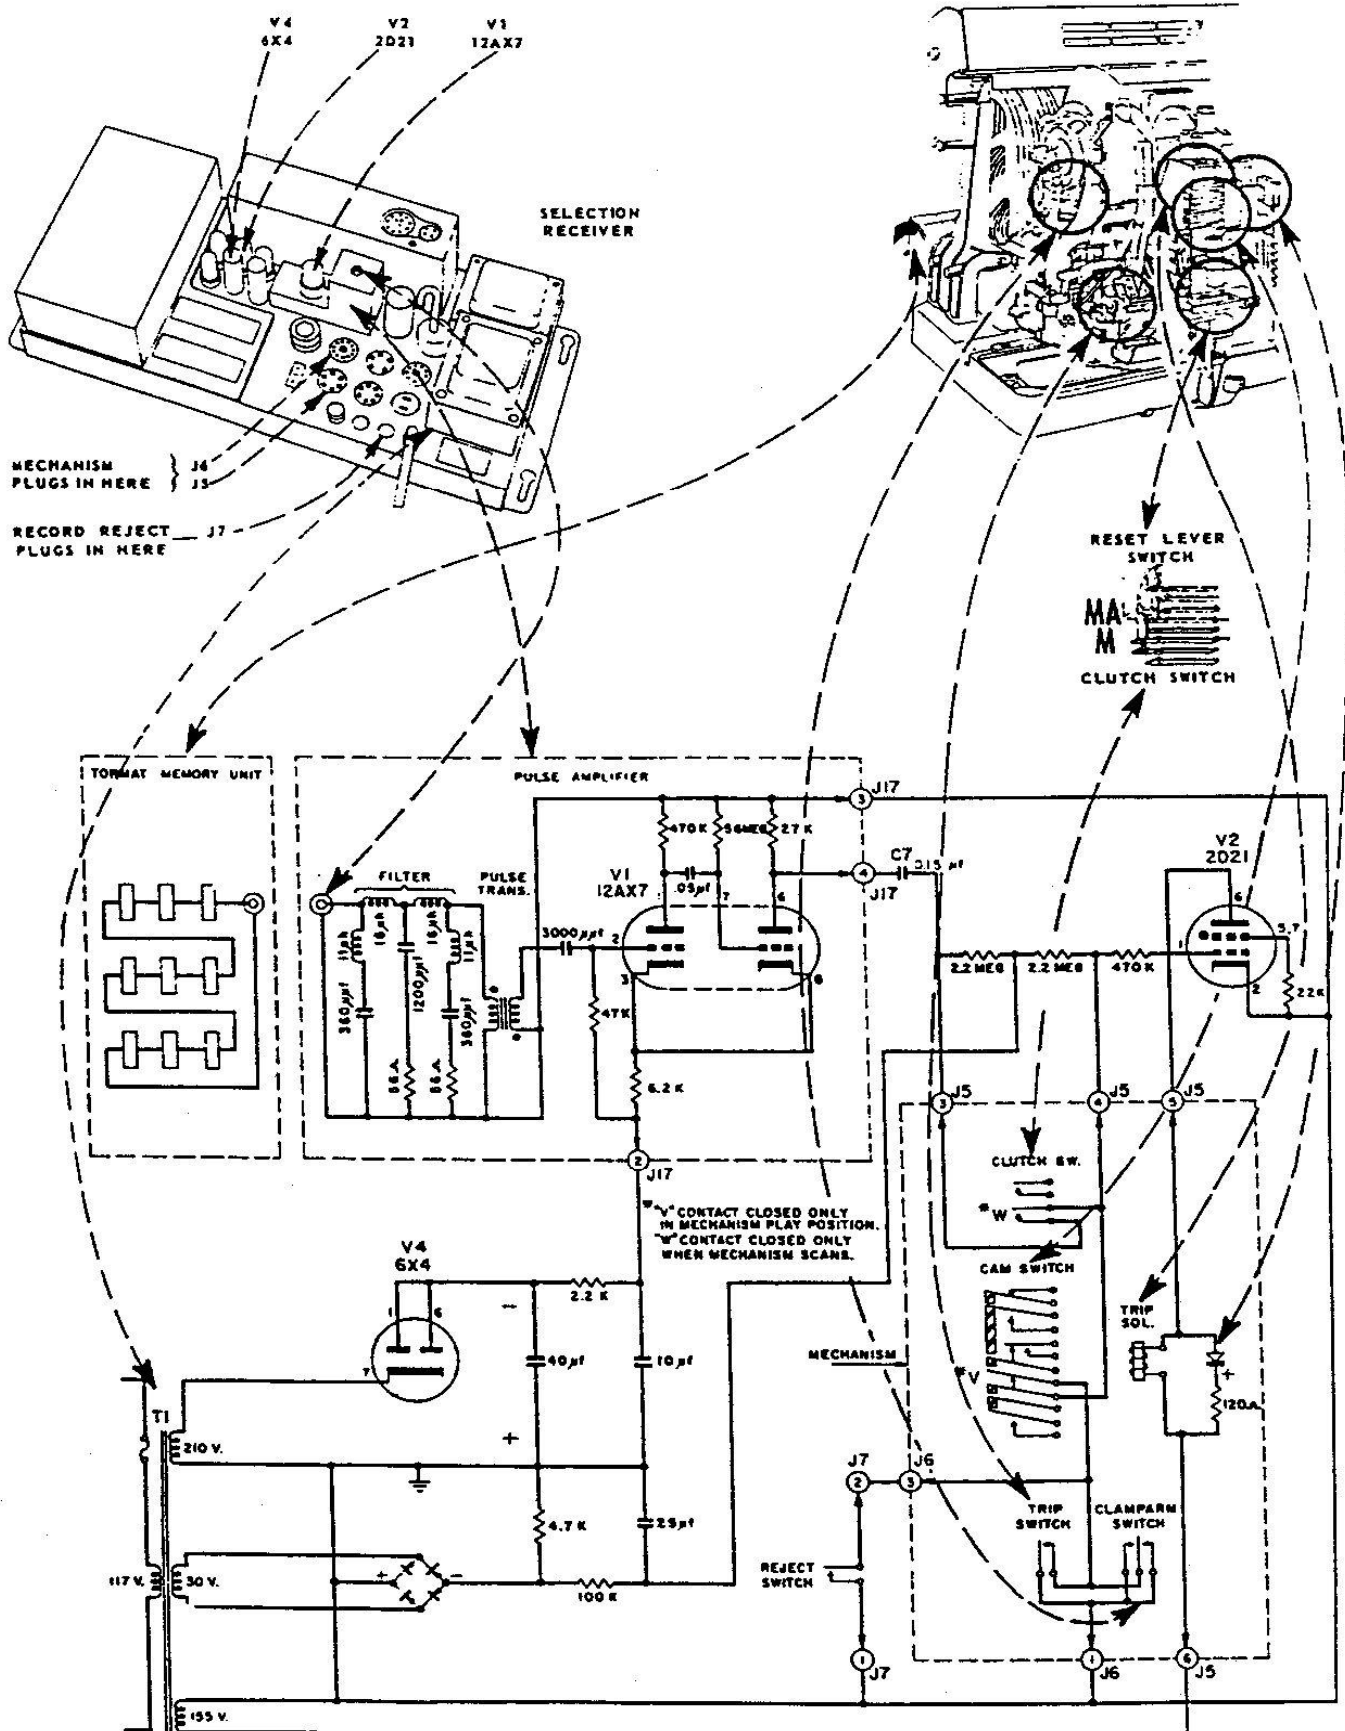

Figure 36.
The sensing and trip circuits are shown in Figure 36. The diagram has been simplified by representing the Memory Unit with only nine toroids and with an output loop threading once only through each toroid. In the true Memory Unit the loop is threaded three times through all of the two hundred toroids. It connects to the pulse amplifier in the selection receiver through a shielded pair of conductors that are in the cable connecting to the Unit. Connection is made to the amplifier with a plug.
* A wire in the pulse amplifier connects the 12AX7 cathodes to pin 5 of the plug that connects the amplifier to the selection receiver. This connection is not shown in Figure 36 but may be traced in the full diagram of the selection receiver. It is for test purposes and checking bias voltage and is accessible at the socket (J 17) at the back of the selection receiver chassis.
The trip and sensing circuit associated with the read-out and write-in circuits that are controlled by direct pulse switching is shown in *Figure 39*. Basically, it is the same as the circuit associated with the 2D21 tubes and shown in *Figure 36*. A type 2050 thyratron replaces the type 2D21 used in the earlier circuit. The W-contact in the mechanism clutch switch is shorted out by a connection between terminals 3 and 4 of socket J5 and the associated network of resistors in the grid circuit of the thyratron, V2, has been eliminated.